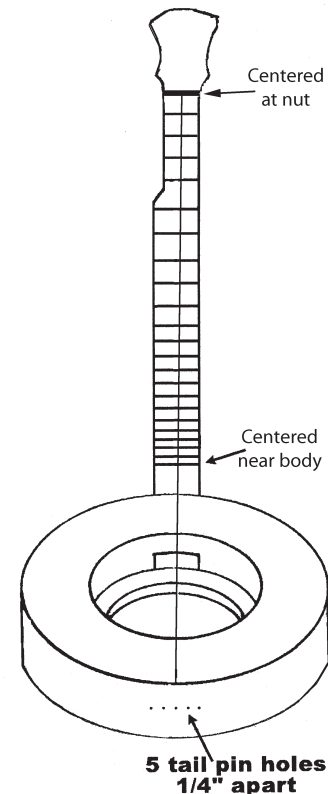

FIG. 25
- 21. Find the center of the fretboard at each end, as shown in diagram. (fig. 25) Put masking tape on the wood for marking these centers. Notice that the line between these two centers will be off-center in the middle of the fretboard, but that's OK. We are allowing room for the short 5th string.
- 22. Lay a long straight-edge between these two center points and down to the bottom of the body. Mark where the line ends at the bottom, and extend it over the edge and down an inch or so on the side of the body. Use a ruler to draw a perpendicular line on the side of the body, and to mark 5 points spaced about 1/4" apart, two marks on either side of the center point, as shown in drawing. (fig. 25)